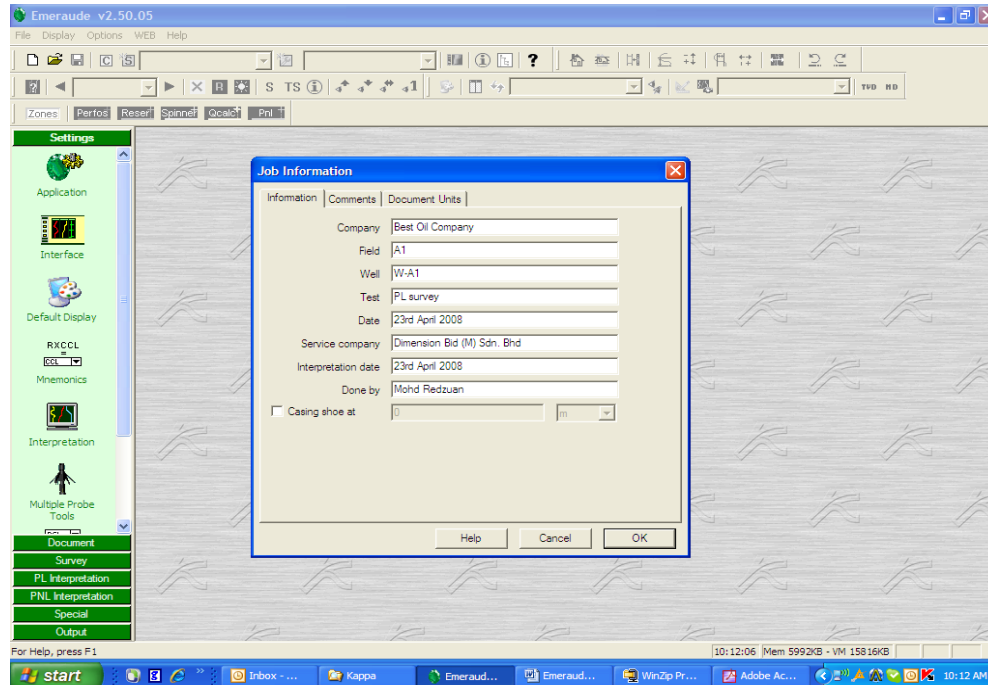

Figure 1.2: Job information dialog
- The "Job Information" dialog is opened, Fig. 1.2. This dialog has 3 tabs: